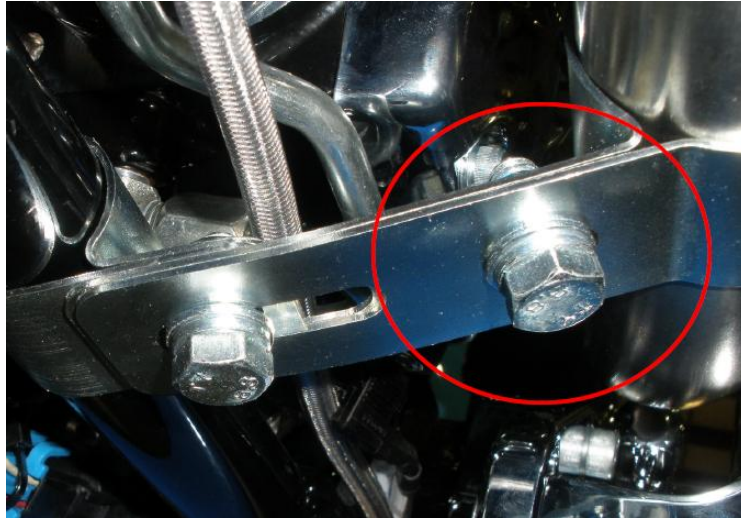

Fig. 8: Headpipe/Chassis Clamp detail
13.) Tighten Headpipe/Chassis Bracket screw to final torque (Fig. 8)